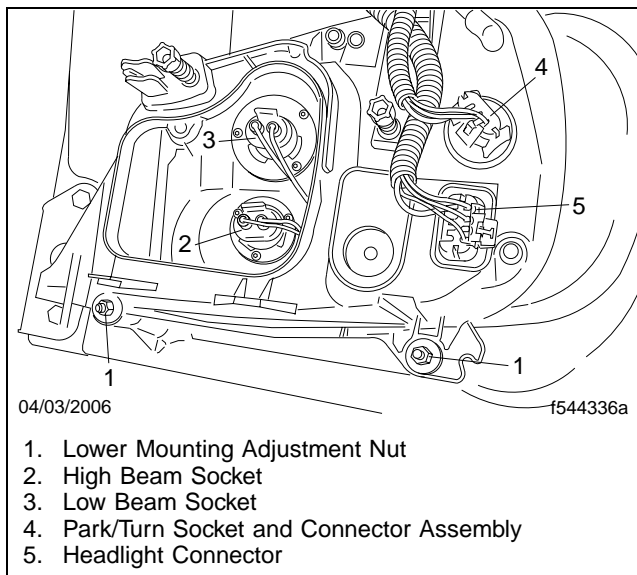

Fig. 3, Headlight Bucket (rear view)
- 5.3 Remove the nuts from the two lower mounting adjustment studs. See **Fig. 3**.